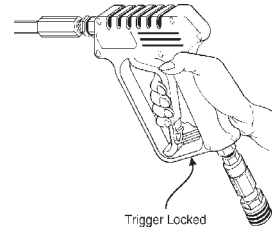

FIG. 2.4 - GUNVALVE SAFETY TRIGGER
2. PUT GUNVALVE TRIGGER IN LOCKED POSITION (Fig. 2.4).
8. Pull gunvalve trigger to release all pressure in the system, then LOCK THE GUNVALVE TRIGGER (Fig. 2.4).